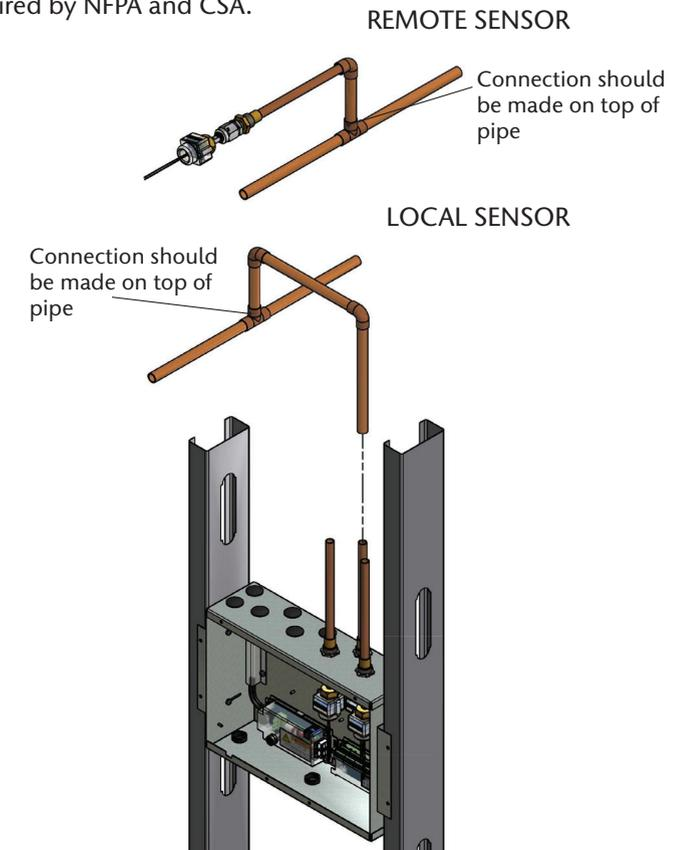

Figure 3: Sensor Pipeline Connection
3. Braze copper adapter tube(s) to appropriate pressure/vacuum piping system drops (Figure 3). Braze connections per procedures required by NFPA 99 or CAN/CSA-Z305.1. Use appropriate measures to prevent overheating.
2. Braze copper adapter tube(s) to appropriate pressure/vacuum piping system connections (Figure 3).